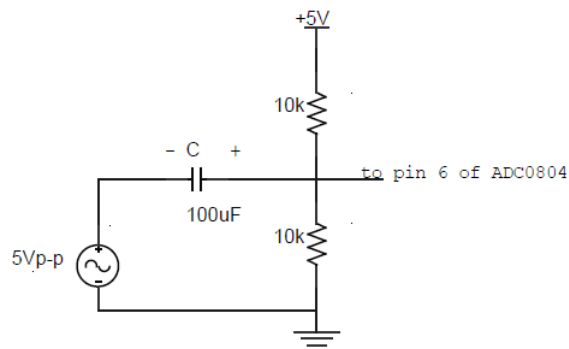

Figure 10-4 Sinusoidal Input Circuit
13. Build the circuit shown in Figure 10-4 below, which will allow for connection of the function generator.